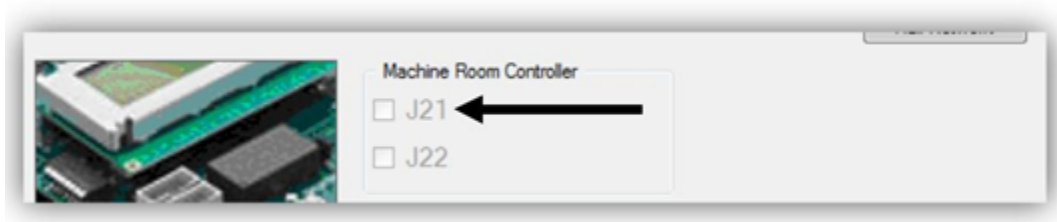

Figure 21: J21 and J22 Checkbox
5. Move the programming pod from port J21 to J22, then click on the J22 check box and begin programming. See Figure 21.
2. Select the J21 checkbox on the Smartrise programming application. See Figure 21.
4. Move the programming pod from port J21 to J22, then click on the J22 check box and begin programming. See Figure 21.